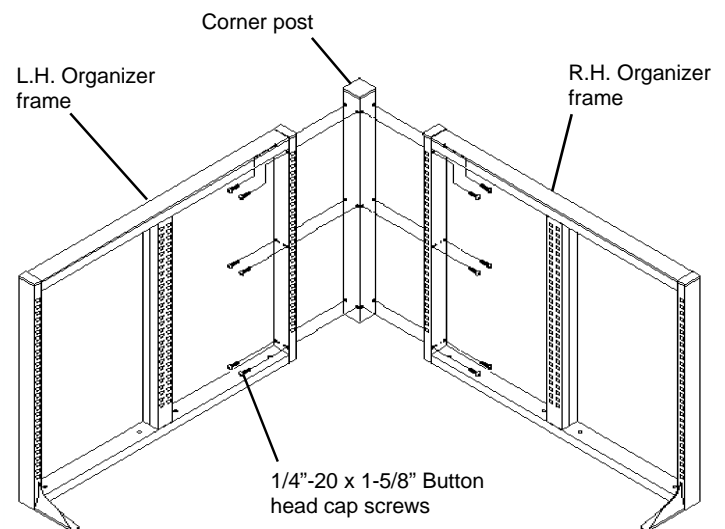

Figure 1
1. Assemble Left hand and Right hand **Organizer frames** to the **Corner post** with the 1/4"-20 x 1-5/8" Button head cap screws provided. See **Figure 1**.